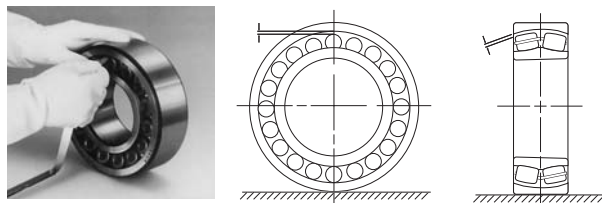

Fig 3. Checking bearing clearance with bearing on bench
1. With bearing on bench check clearance using the feeler gauges **over the top of the rollers at the top of the bearing** as shown in Fig. 3 and note the clearance.